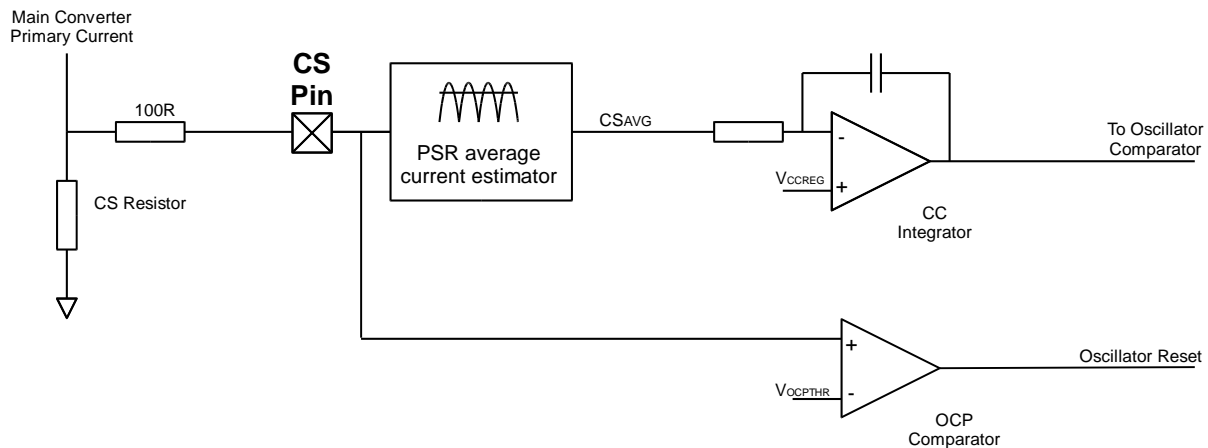

Figure 7: RED2433 Current protection and control circuits
Figure 7 shows the two current control methods used in the converter:
Shown in figure 7 the signal from the CS pin is divided into two different paths. The bottom path provides peak instantaneous over-current protection (OCP) while the PSR Average Current estimation block provides the current regulation (CC) information. The voltage on the CS pin is an AC signal biased around GND. Inside the PSR block this signal is processed to provide a voltage proportional to the average converter output current.
The CC regulation circuit is shown in Figure 7. CC operation is defined by an internally compensated control loop. This provides a system response time of approximately 300us in a typical application. The average current regulation point, V_{CCREG} is pre-set to 150mV, referred to the CS pin.